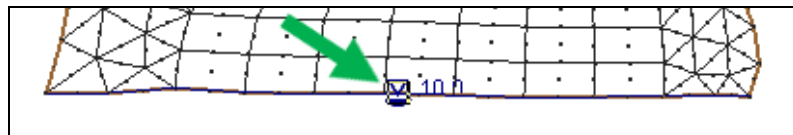

Figure 2 Selection box at the downstream boundary condition
2. Using the **Select Nodestring**  tool, click in the selection box at the downstream boundary condition (at the bottom of the screen, see Figure 2).